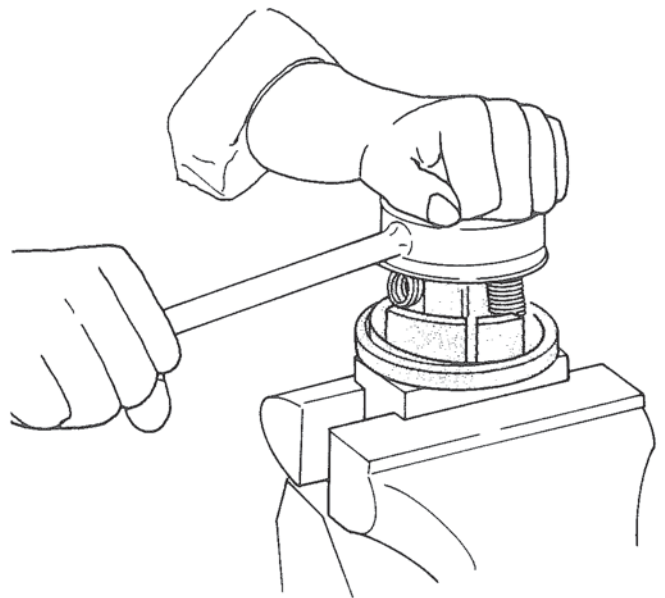

Figure 56. Installing Timer Spring Assembly.
3. Secure assembly using spanner as follows: Figure 56.